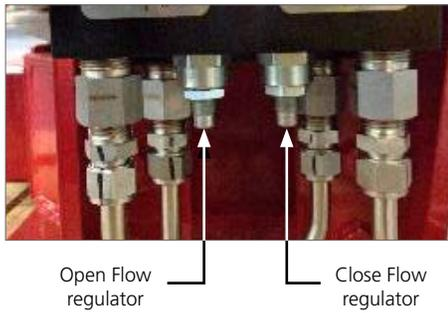

Fig 10.5 Flow regulator –front view
- Rotate the flow regulators (see Fig 10.5), by means of an Allen key, clockwise to lower the flow rate